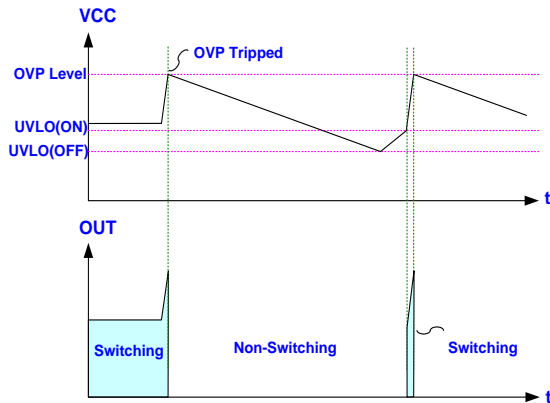

Fig. 21
The LD5516C are implemented with OVP function over VCC. As the VCC voltage rises over the OVP threshold voltage, the output drive circuit will be shutdown simultaneously thus to stop the switching of the power MOS until the next UVLO(ON) arrives. The VCC OVP function of LD5516C are an auto-recovery type protection. The Fig. 21 shows its operation. On the other hand, if the OVP condition is removed, the Vcc level will get back to normal level and the output will automatically return to the normal operation.